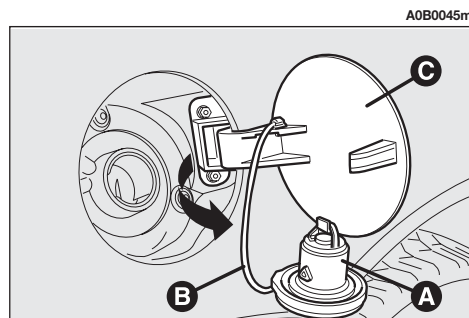

fig. 171
The fuel cap (A-fig. 171) has a catch to prevent misplacing it (B) that fastens it to the flap (C).